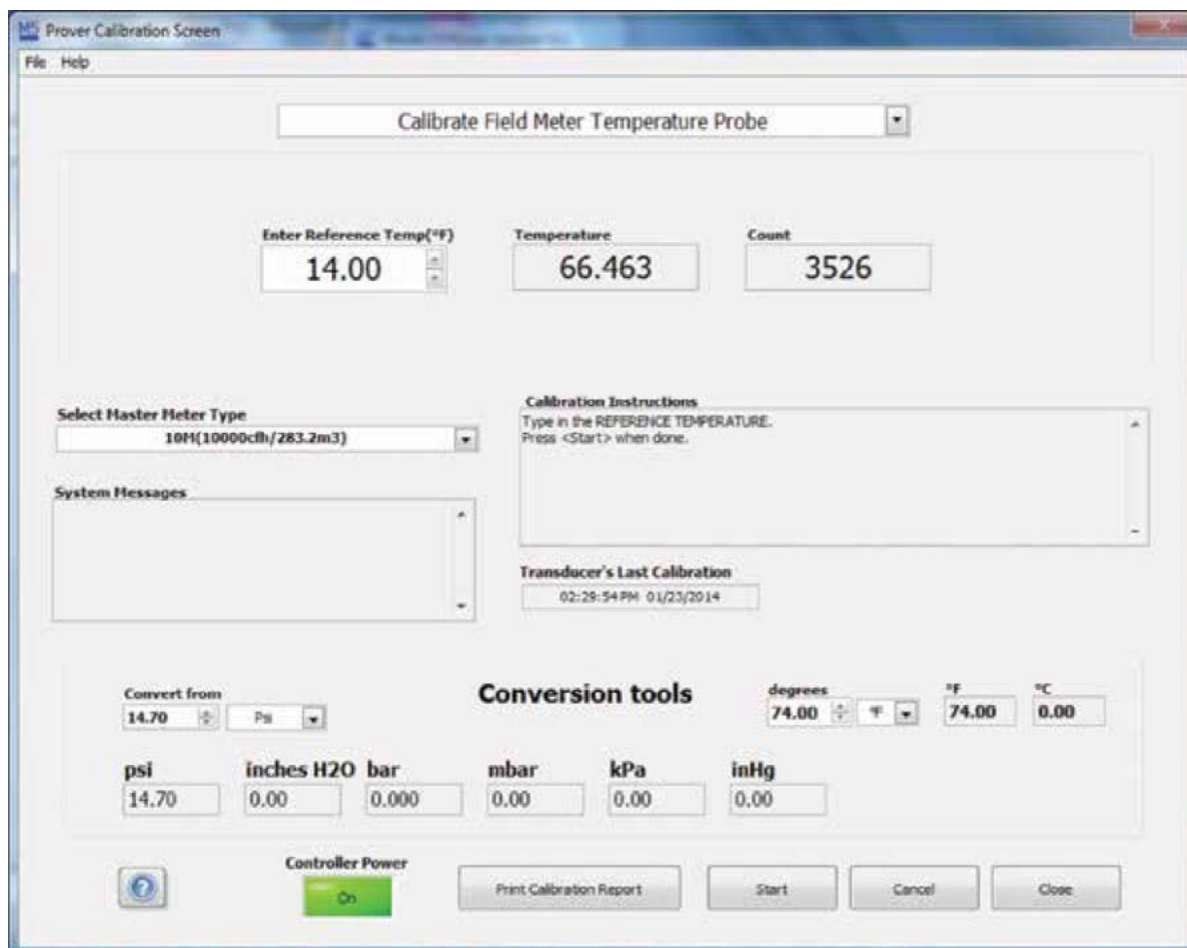

Figure 32: Select Calibrate Field Meter Temperature Probe
1. From the Prover Calibration Screen, select the pull down arrow and click "Calibrate Field Meter Temperature Probe." Refer to Figure 32.